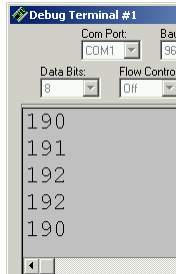

Figure 7-5
- √ Verify that there is a single column of values scrolling down the Debug Terminal. Figure 7-5 shows an example.